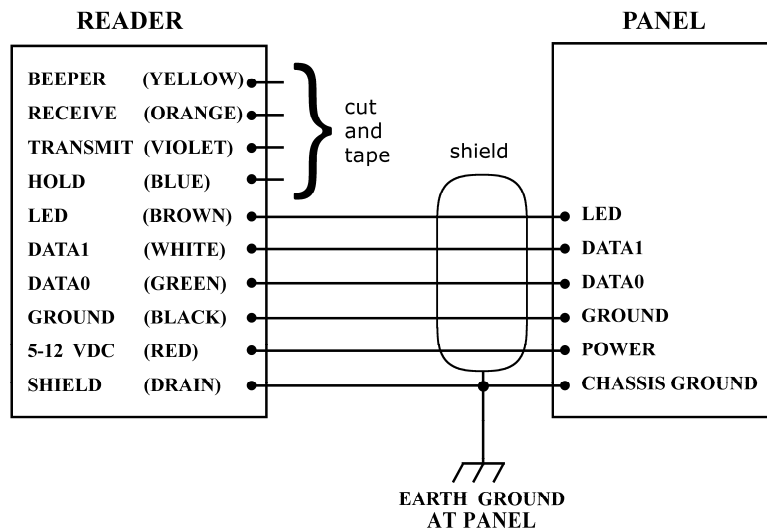

FIGURE 2: WIRING DIAGRAM (WIEGAND)
4. Connect the reader's cable to the access control panel as shown in Figure 2. Connect the **yellow** wire only if used for Beeper control by the panel. Connect the **blue** wire only if used for Hold control by the panel. **Do not connect** the *orange* and *violet* wires to anything. **Tape or cap all unused wires singly.**
Note: The number of conductors depends upon use of optional features – LED, Beeper and Hold. See Figure 2.